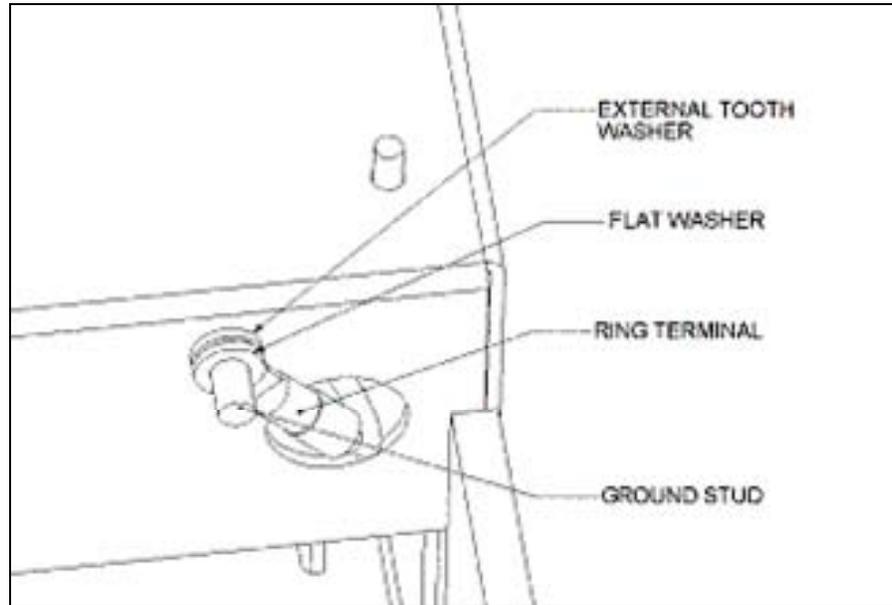

Figure 13-10 Ring Terminal Design
- 2 Remove the Ring Terminal by removing the M4 Nyloc Nut, M4 flat washer and M4 External tooth washer (Figure 13-10).